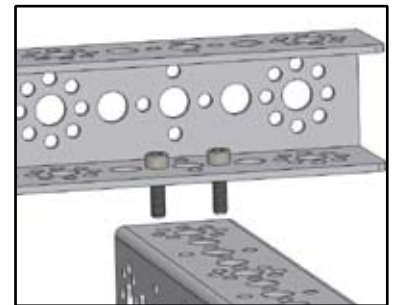

Figure A2
- 2) Align the holes of the top channels to the holes of the bottom channels where you'd like them to be (in the model pictured, the top channels are fastened at the four large holes from each end to create a bumper). At each corner, drop two SHCSs down through the two small holes on either side of the large hole (Figure A2).